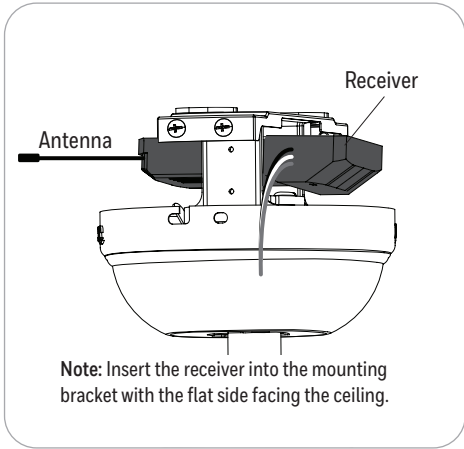

Figure 1
3. Slide the receiver into the mounting bracket (Figure 1), being careful not to pinch the antenna wire.